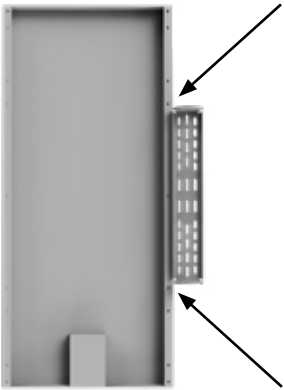

Figure 1
- Place one of the extended mount brackets along the edge (Figure 1) to determine which set of holes in the solar panel frame will be used to mount the arms. The correct holes will be just outside of the bracket. Set the bracket aside.